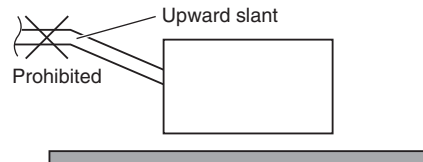

Fig. 1-101
- Do not install the pipe with an upward slant from the connection port. This will cause the drain water to flow backward and leak when the unit is not operating. (Fig. 1-101)